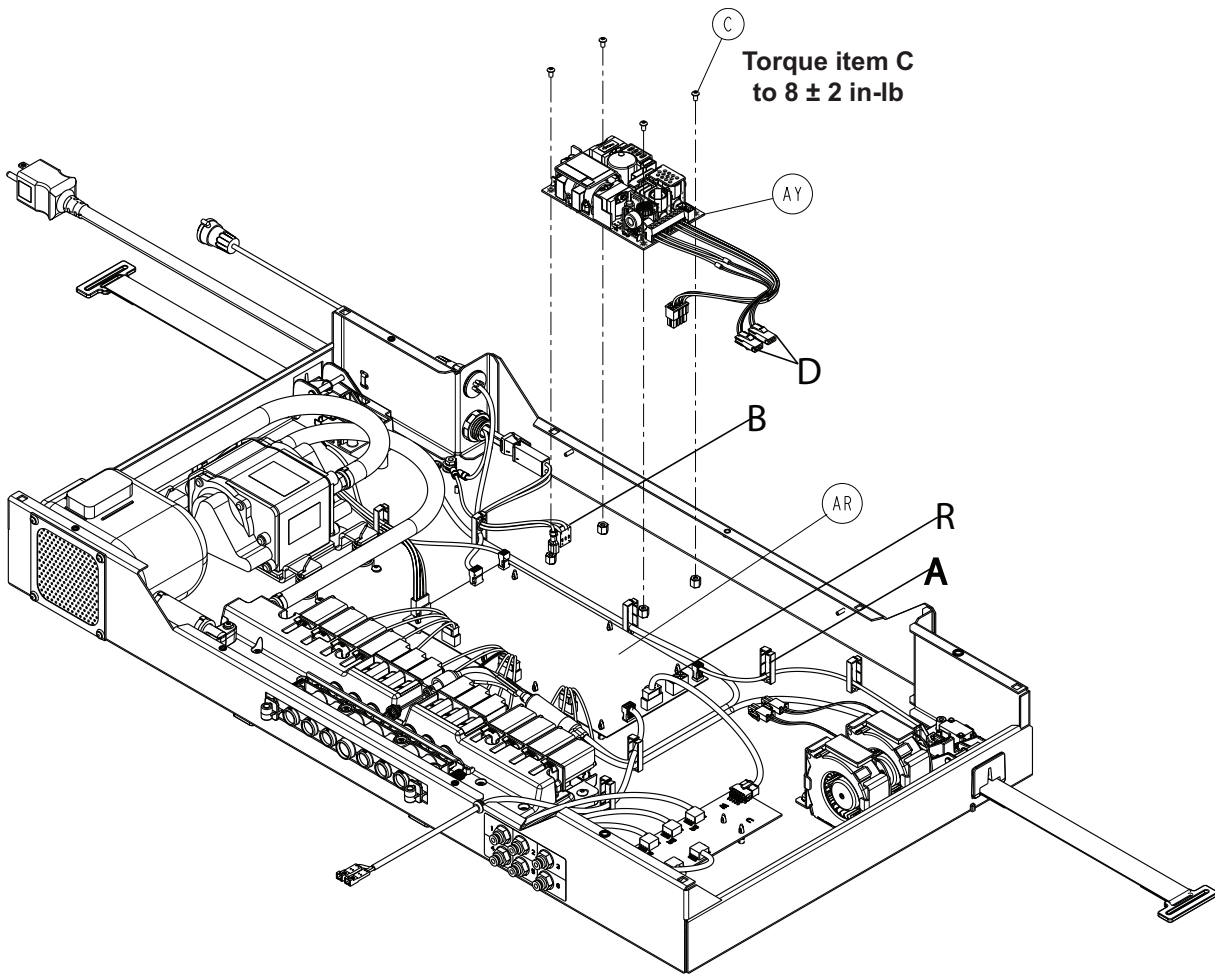

Figure 13 – Power supply
2. Remove the wires for the fans and DC power from the wire clip (A) (Figure 13).
3. Disconnect the DC power connector (R) from the main board (AR).